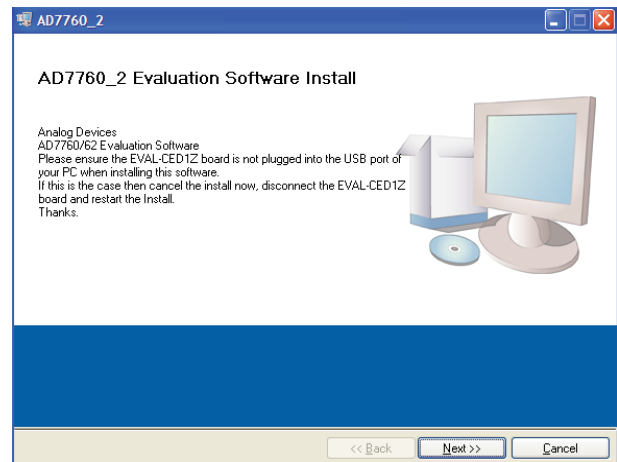

Figure 2. Initial Software Install
1. Insert the CD into the appropriate computer drive. Initial software installation information as shown in Figure 2 appears.